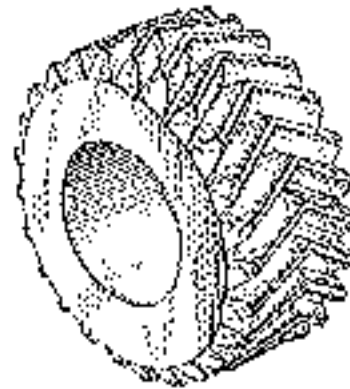

Figure.1
- What type of gear is shown in figure 1 and what is the advantage of using this gear?